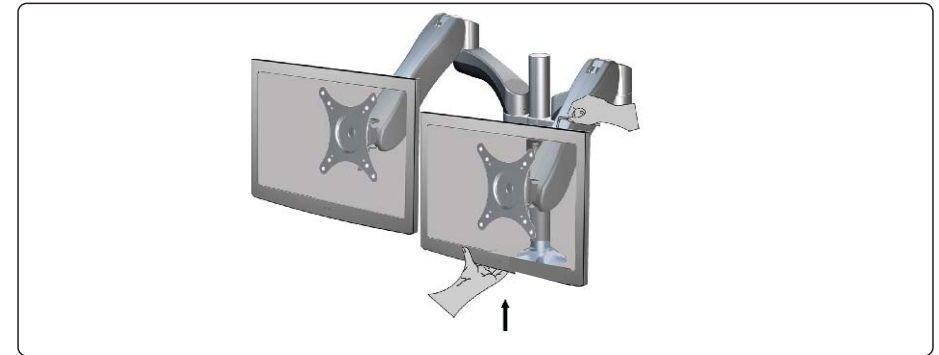

Figure 5-1
1. To support display monitor when adjusting resistance of the Articulating Arm Assembly. (See Figure 5-1)